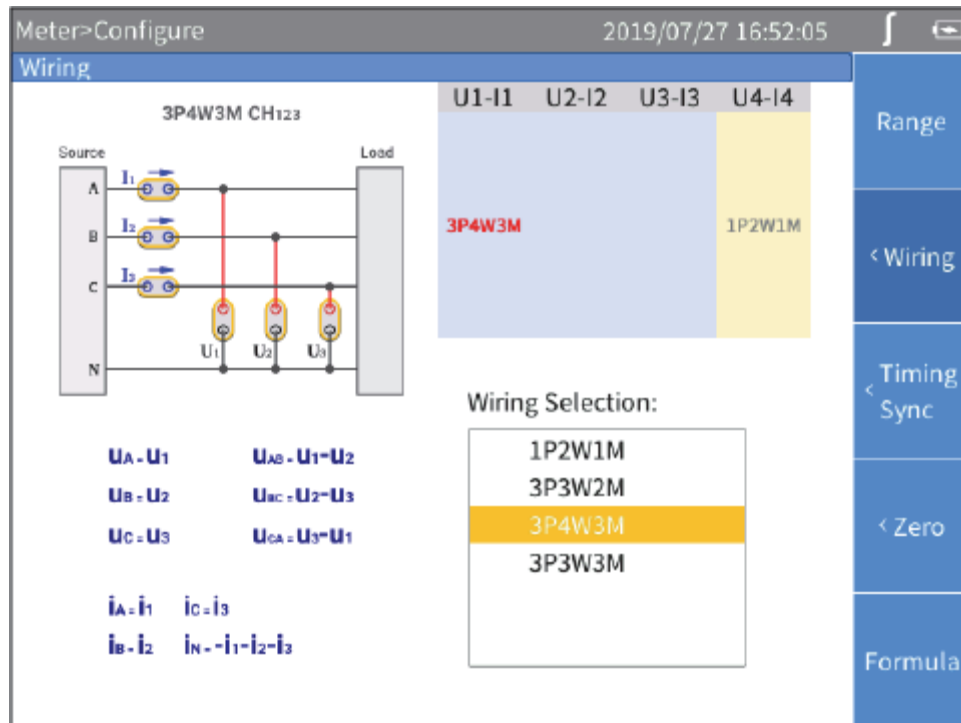

Figure 12. Wiring
2. The Configuration interface of wiring selection is as shown in Figure 12.
1. In the **Wiring** screen (Figure 12), use the left and right arrow (◀ ▶) keys to select a channel or wiring group in **Channel Configuration**. The wiring selection of the selected channel/wiring group is highlighted.